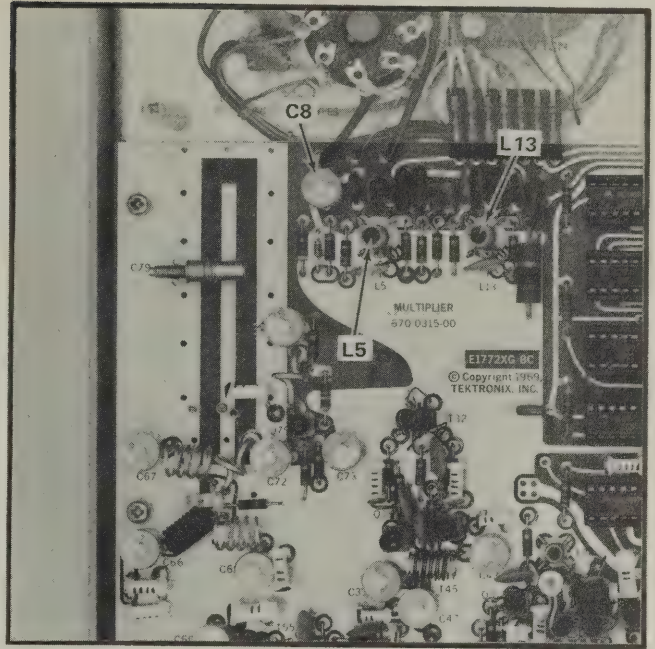

Fig. 5-4. Crystal oscillator frequency and amplitude adjustments.
- 1) Adjust C8 (Fig. 5-4) for 10 MHz.
- g. ADJUST—L13 (Fig. 5-4) for maximum marker amplitude. If the core of L13 is moved more than one full turn, readjust L5 to the midpoint of the oscillator operating range. Recheck accuracy of the 10 MHz oscillator.
f. ADJUST—L13 (Fig. 5-4) for maximum marker amplitude. If the core of L13 is moved more than one full turn, readjust L5 to the midpoint of the oscillator operating range. Recheck accuracy of the 10 MHz oscillator.